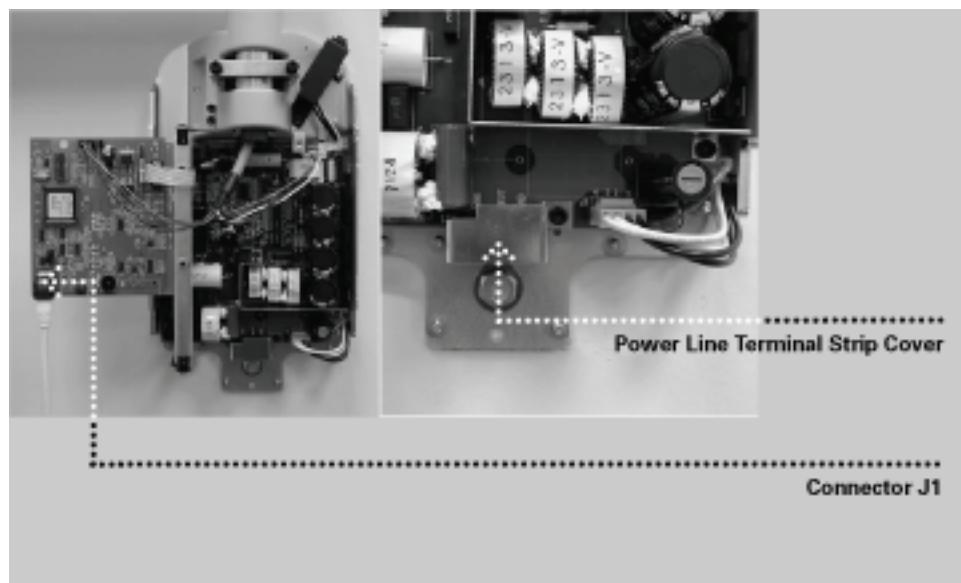

Figure 24
1. Using a 3 mm Allen wrench, remove the power line terminal strip cover at the base of the Logic Board to gain access to the power line terminal strip, as shown in Figure 24.
3. Plug the other end of the cable into connector J1 on the Logic Board 30-08160, as shown in Figure 24.